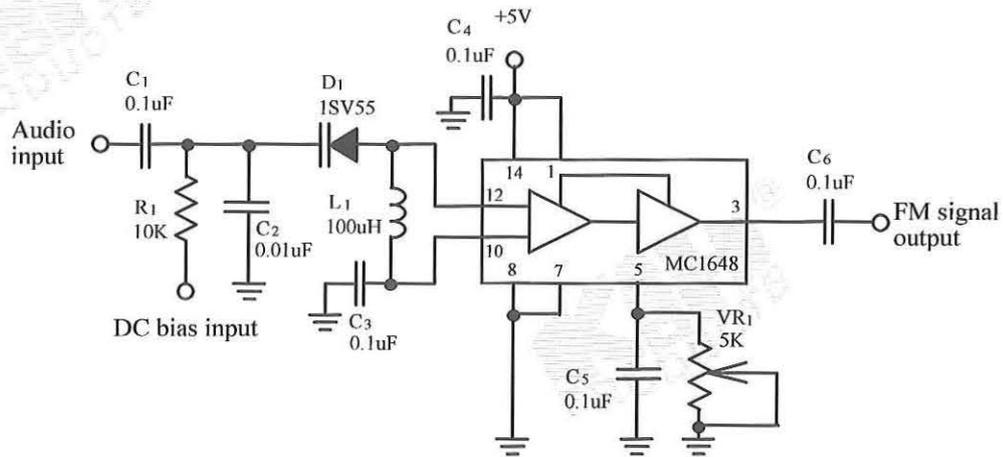
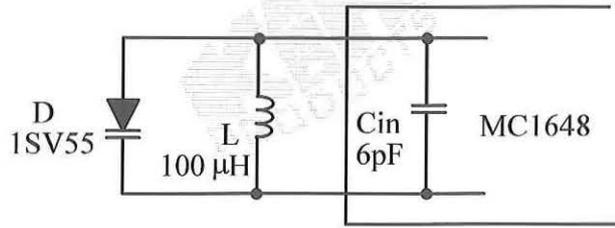

Fig.7-3 MC1648 FM modulator circuit
Fig.7-4 AC equivalent circuit of tuning tank
In our experiments we will implement the frequency modulator with MC1648 VCO chip shown in Fig. 7-3. Basically, this circuit is an oscillator and the tuning circuit at input end determines its oscillating frequency. In this circuit, capacitors  $C_2$  and  $C_3$  are the bypass capacitors for filtering noise. When operating at a high frequency (for example 2.4 MHz), the capacitive reactance of these two capacitors are very small and can be neglected for practical purposes. Therefore, an ac equivalent circuit of tuning tank, shown in Fig. 7-4, is a parallel LC resonant circuit. The C can be considered as the capacitance of 1SV55 ( $C_d$ ) and the input capacitance of MC1648 ( $C_{in}$ ) connected in parallel. The value of
As mentioned above, the capacitance  $C_d$  of varactor diode  $D_1$  varies with the amount of its reverse bias voltage. According to Eq. (7-6), we know that the change of  $C_d$  value will cause the change of oscillating frequency. In the circuit of Fig. 7-3, a small dc bias will produce a large  $C_d$  value and a low frequency output. On the other hand, an increase in dc bias will result in a small  $C_d$  value and a high frequency output. Therefore, if the dc bias is fixed and an audio signal is applied to this input, the VCO output signal will be a frequency-modulated signal.
1. If the inductance in the tank circuit of Fig. 7-3 is 80nH and we wish to get a resonance frequency of 100MHz, what capacitance value of varactor diode should be?